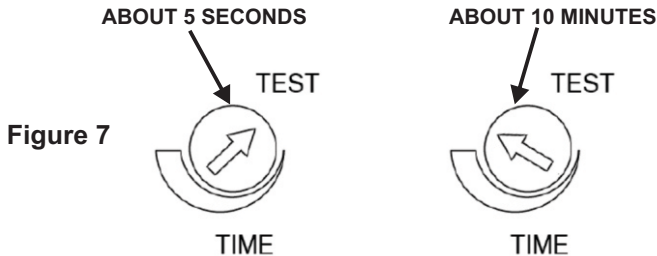

Figure 7
(2) TIME ADJUSTMENT
- Turn the time control knob clockwise to increase (up to about 10 minutes) how long the floodlight stays on or anti-clockwise to decrease (down to about 5 seconds) the time delay (**Figure 7**).